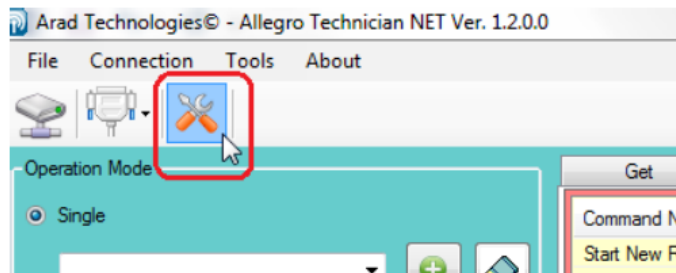

Figure 7
4. Select the “**Settings**” icon (see figure 7).